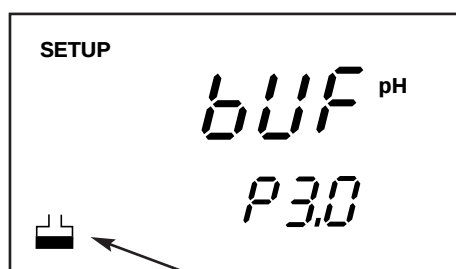

Figure 56
2. Press **▲** and **▼** keys to scroll through the programs until you view **buf** in the primary display and **P3.0** in the secondary display. The buffer annunciator also appears. —See Figure 56.